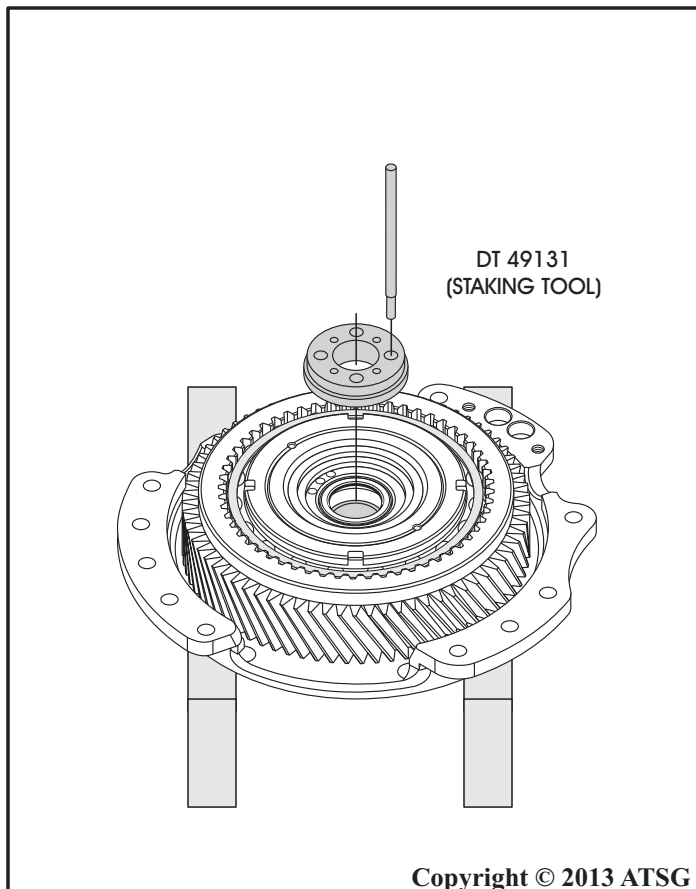

Figure 109
18. There is a staking tool available DT-49131 to properly stake the seal, as shown in Figure 109.